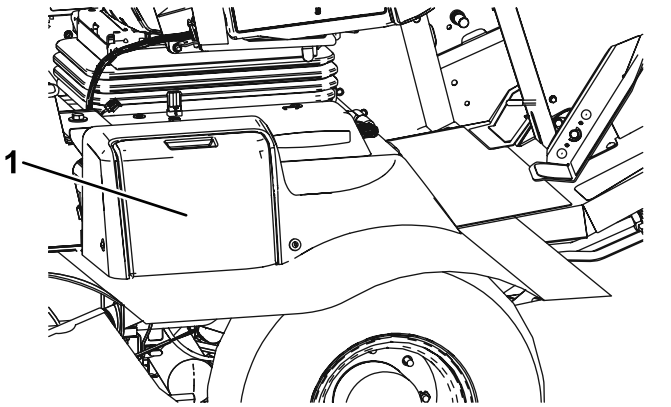

Figure 62
3. Close the battery compartment cover (Figure 62) until it securely snaps shut.
1. Loosen the mounting locknuts and capscrews to adjust the lights (Figure 62).
3. Tighten the locknuts and capscrews (Figure 62).